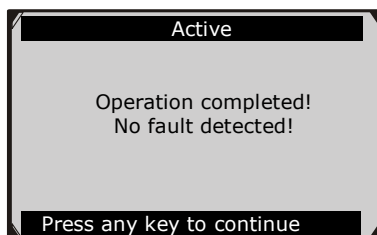

Figure 10-23
- 2) In the Active menu, use the **UP/DOWN** button to select the desired actuator to begin test. If the selected actuator works correctly, the tool will display a confirmation message as below (Figure 10-23). Otherwise, it will display a message to remind user of a problem. After you exit the diagnosis program, please repair the problem immediately.